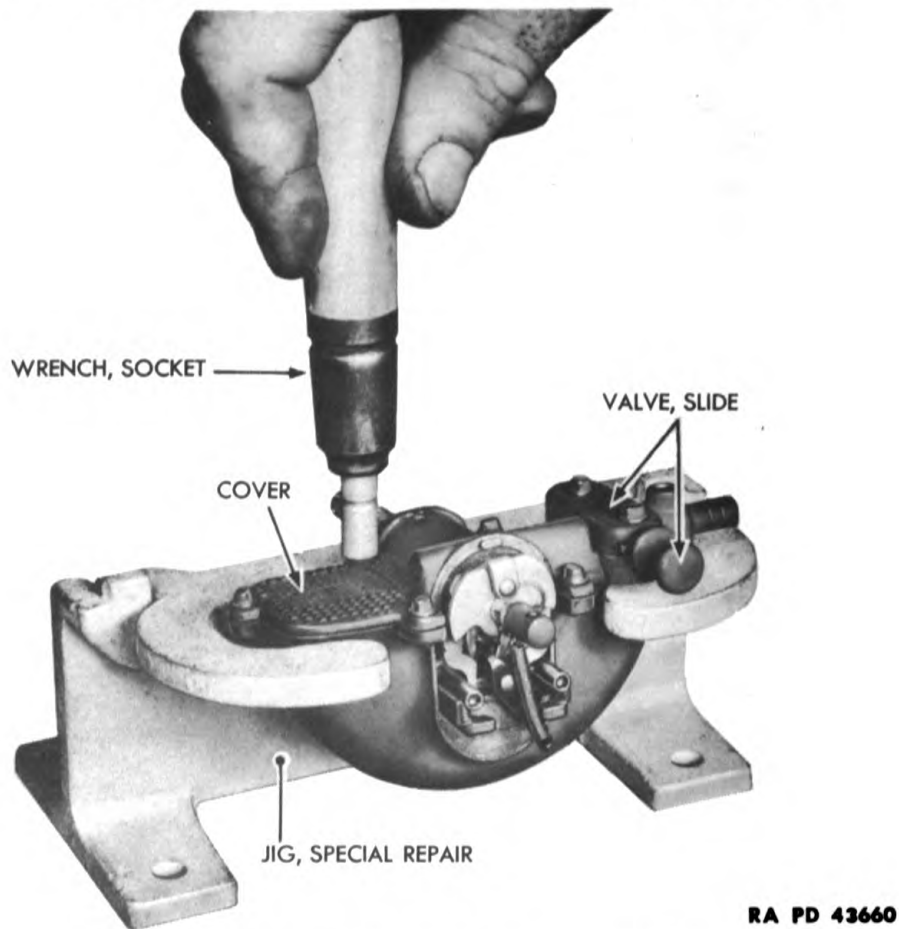

Figure 122—Removing Cover Assembly
(2) REMOVE COVER. NOTE: The slide valve (fig. 126) is a part of the cover and must not be removed. Remove six cover screws and lift off cover and two cover gaskets (special socket wrench) (fig. 122).